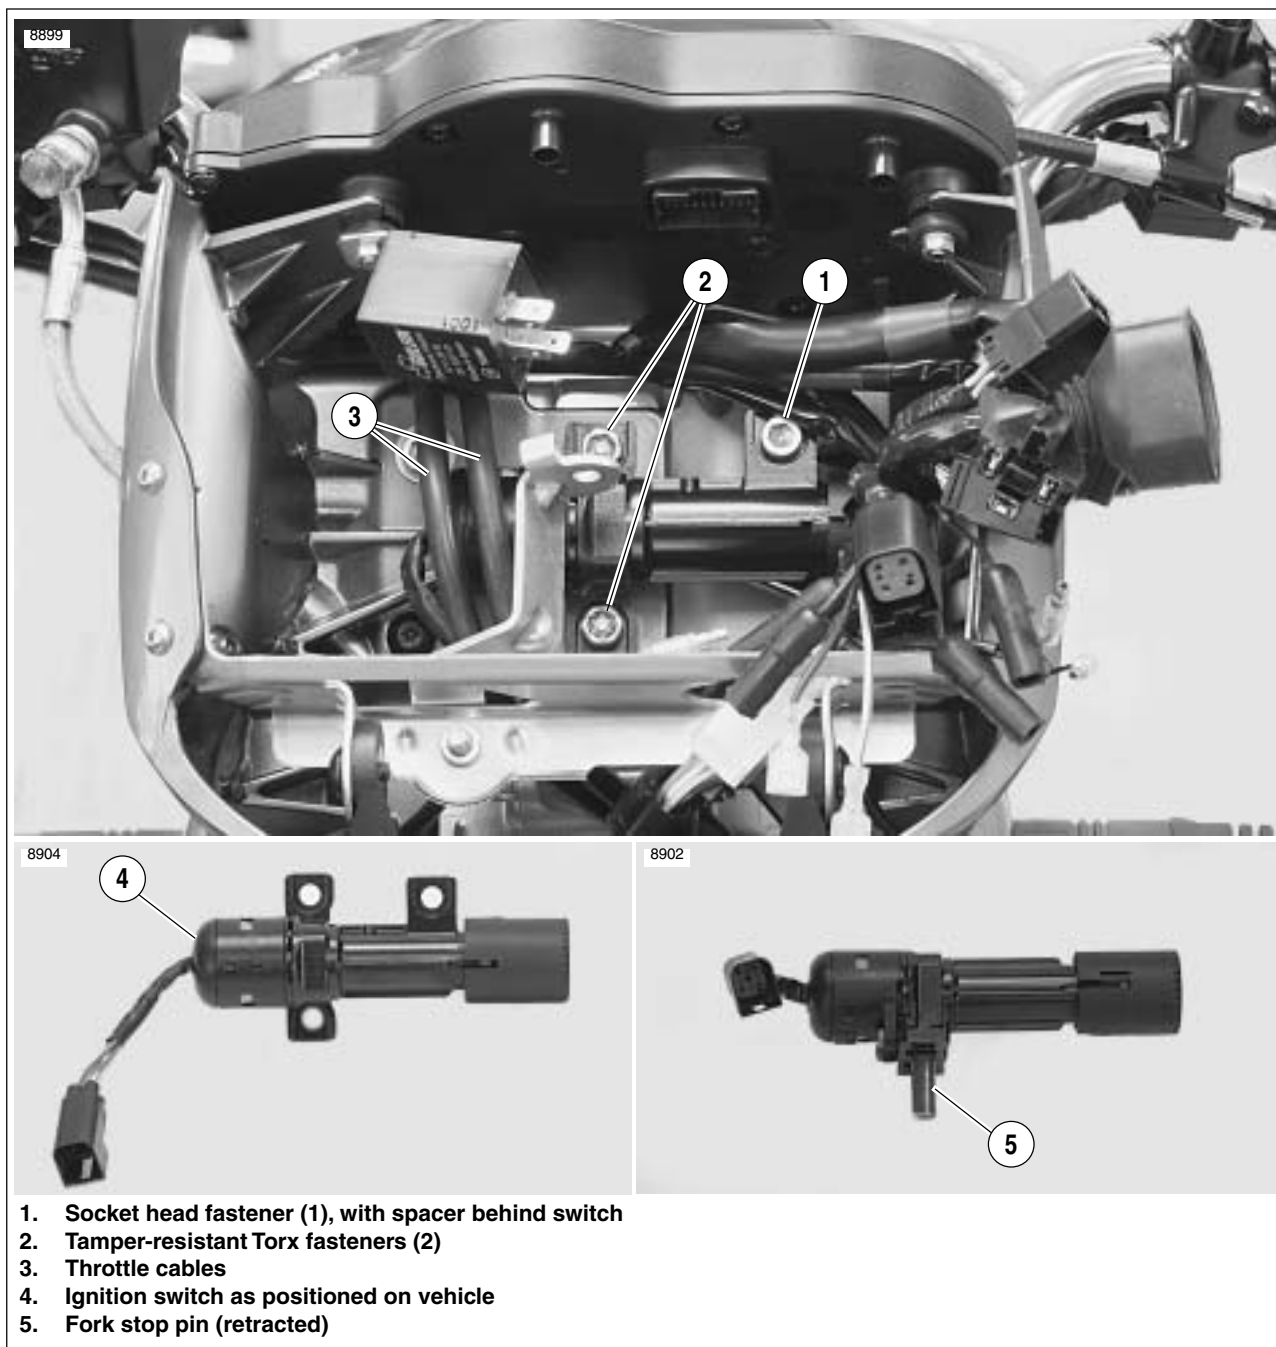
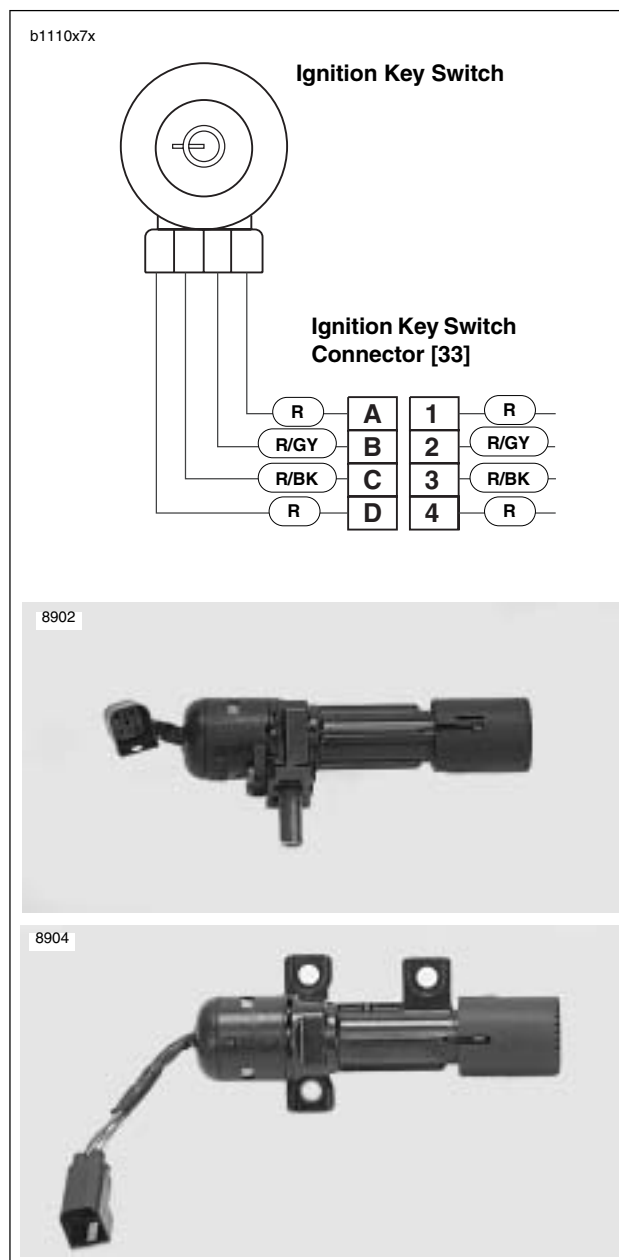

Figure 7-4. Ignition Switch
Figure 7-7. Ignition Key Switch Wiring
7. See Figure 7-4. Use Snap-on Tamper-Resistant T45 Torx driver (Part No. FTXR45E) to remove the two tamper-resistant Torx fasteners (2) securing ignition switch to upper fork clamp.
8. Remove the final ignition switch fastener (1) along with spacer located behind the ignition switch.
9. While holding the throttle cables (3) to your left (the right side of the vehicle), pull the ignition switch (4) toward you and roll the assembly away from you until the fork stop pin (5) is pointing down.
1. See Figure 7-4. While holding the throttle cables (3) to your left (the right side of the vehicle), slide the ignition switch assembly in to your right (the left side of the vehicle).
2. Install the ignition switch (4) with the fork stop pin (5) pointing down and, once in place, roll the assembly toward you and insert the fork stop pin into the upper triple clamp.
4. See Figure 7-7. Connect ignition switch connector [33] to wiring harness.